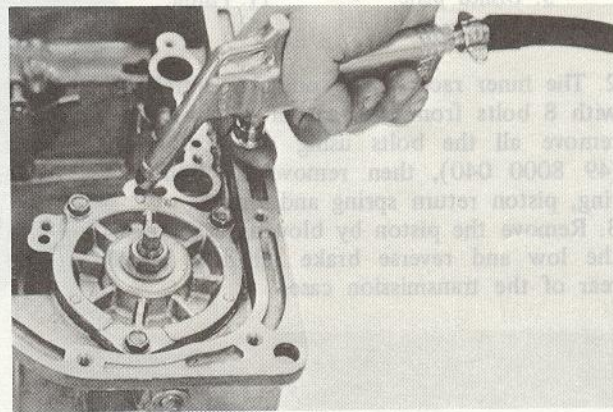

Fig. 7B-39 Checking band servo (1)
3. Back off the three attaching bolts slightly and uniformly, and apply compressed air into the oil hole on the servo piston release side, as in Fig. 7B-40. If the retainer rises by the extent of bolt backing off, the piston operation on release is normal. Tightening torque of the servo retainer is 0.35 ~ 0.45 m-kg (2.5 ~ 3.2 ft-lb).